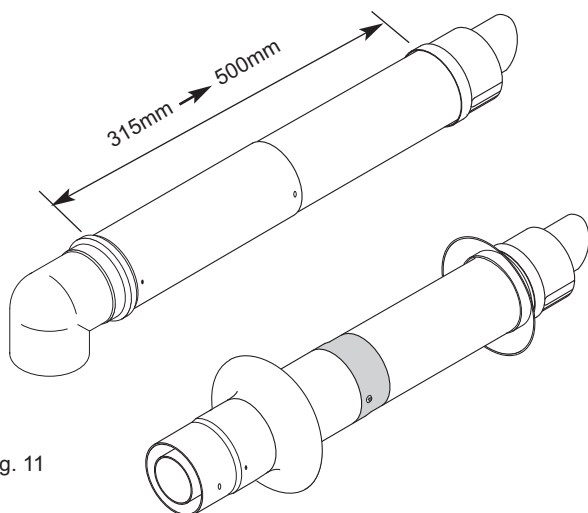

Fig. 11
1. The standard horizontal telescopic flue kit allows for lengths between 315mm and 500mm from elbow to terminal without the need for cutting (Fig. 11). Extensions of 250mm, 500mm & 1m are available.